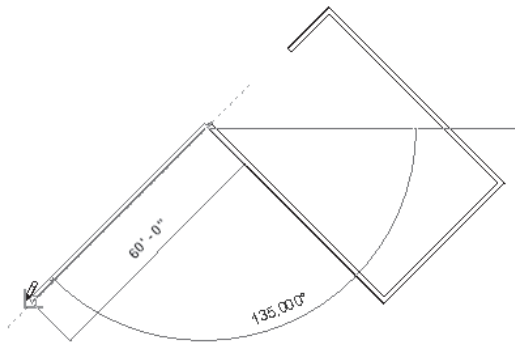

Figure 3-43 Sketching the fifth inclined wall segment
9. Similarly, create the fifth inclined wall segment of 60'0" length, as shown in Figure 3-43.